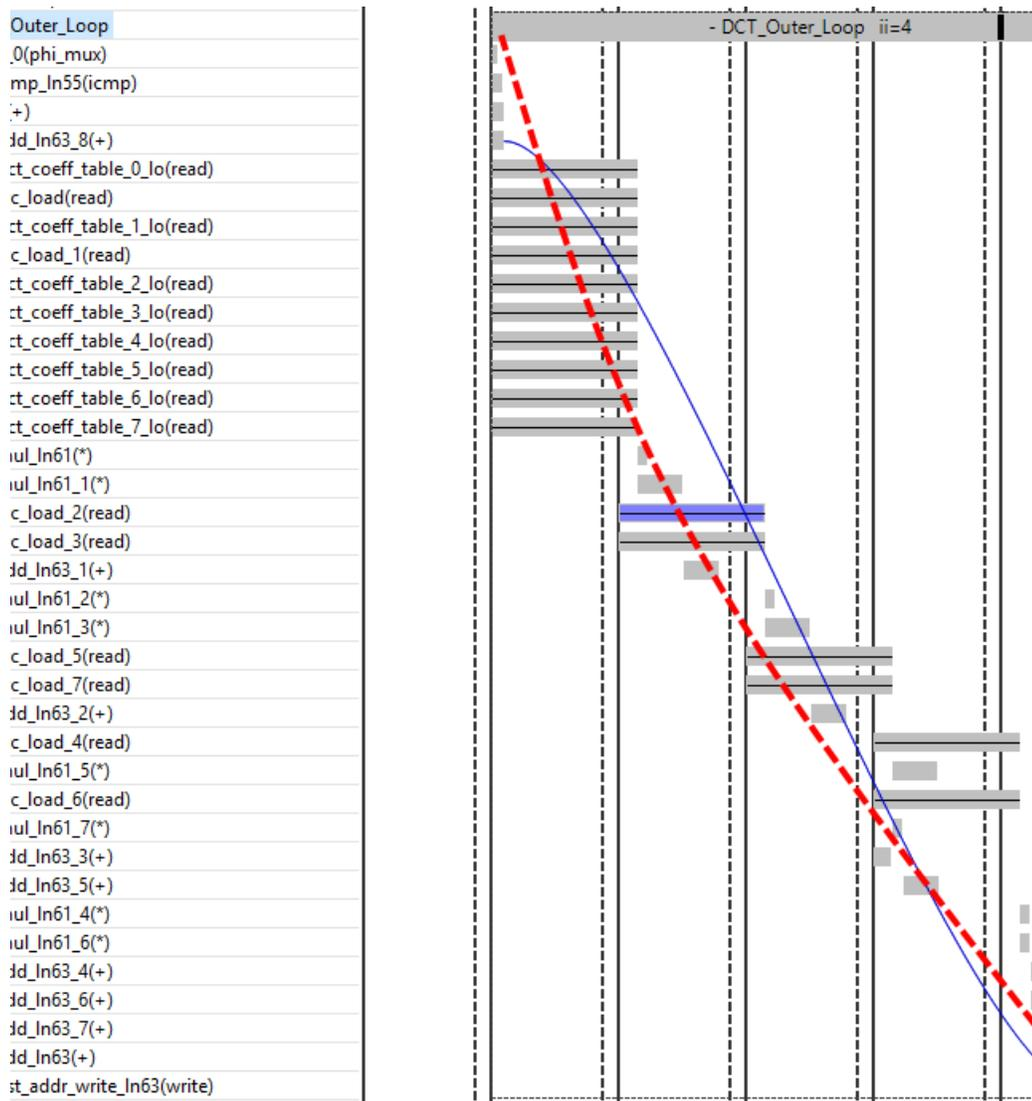

Figure 6-22: Analysis of dct\_1d RD\_Loop\_Row
13. Expand the `DCT_Outer_Loop` to see the view shown in Figure 6-22.
Figure 6-22 shows a very different view from the earlier loop schedules (which had only a few cycles of latency). The schedule shows a long drift from input to output (as shown by the red arrow).
Figure 6-22 shows the analysis of `dct_1d RD_Loop_Row`.